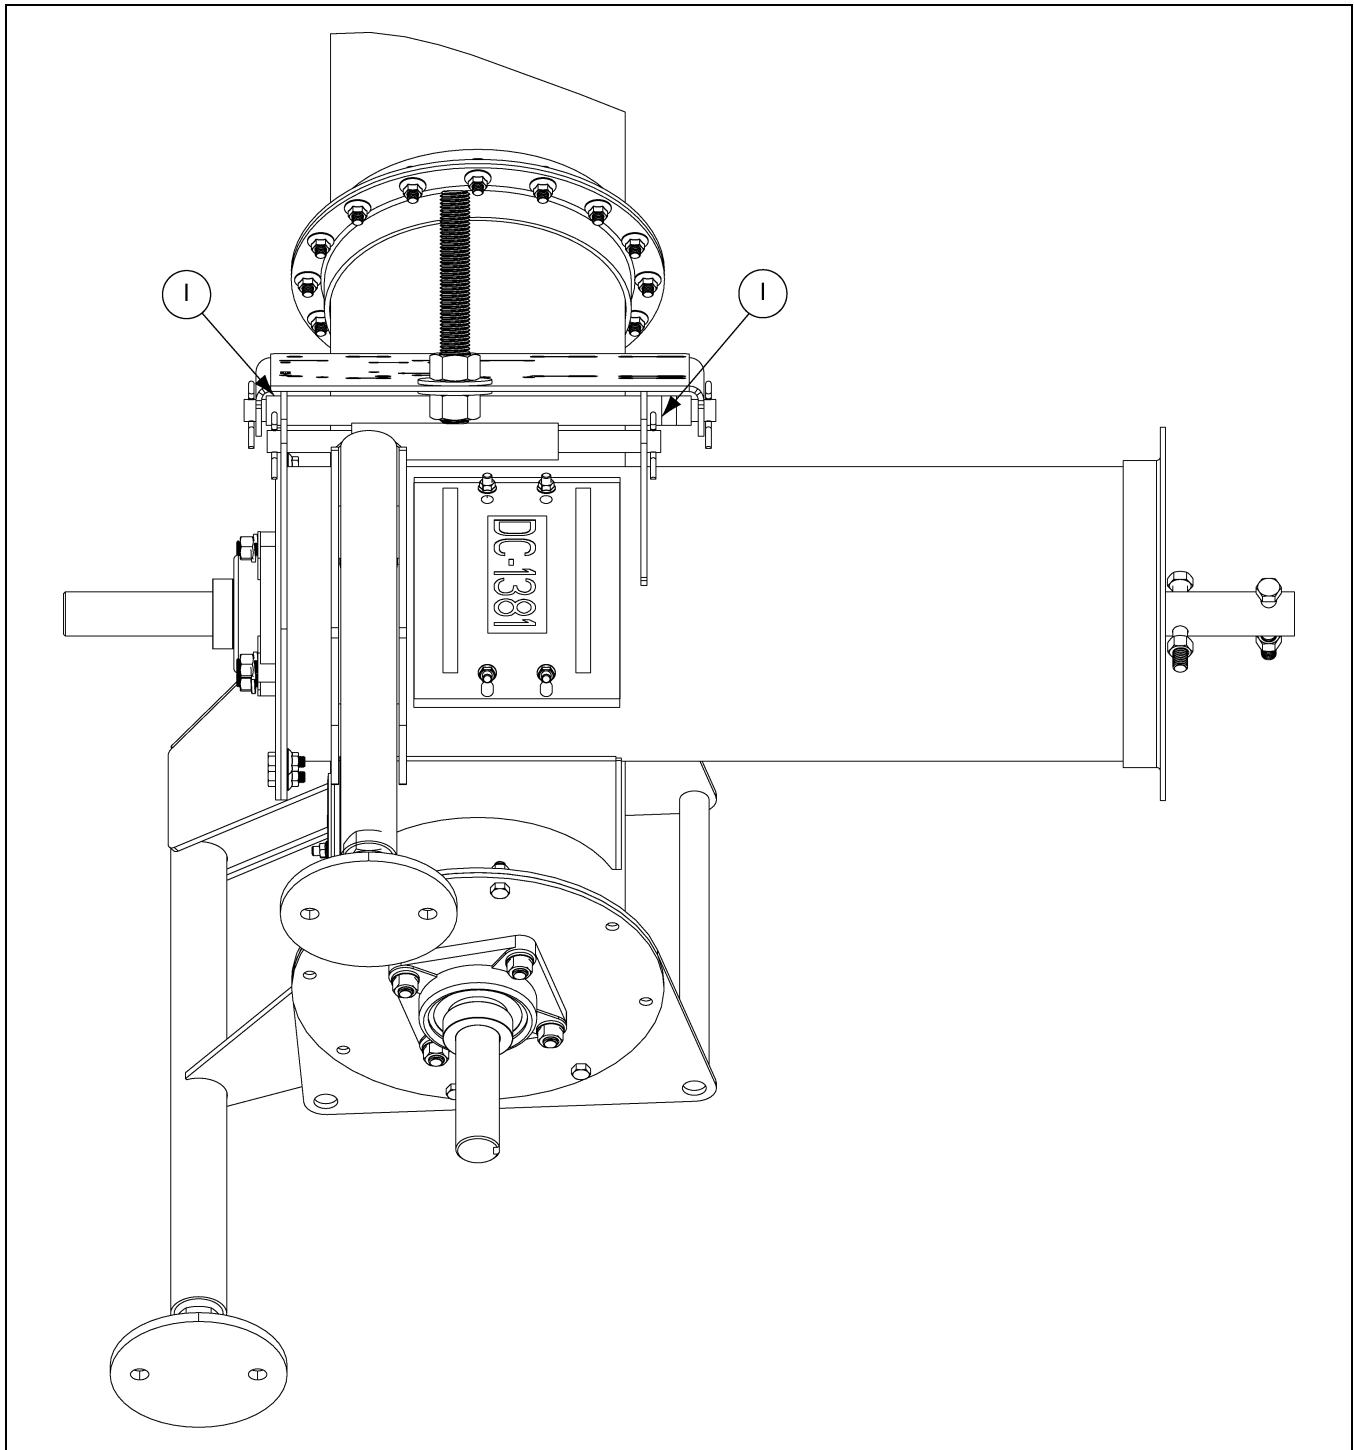
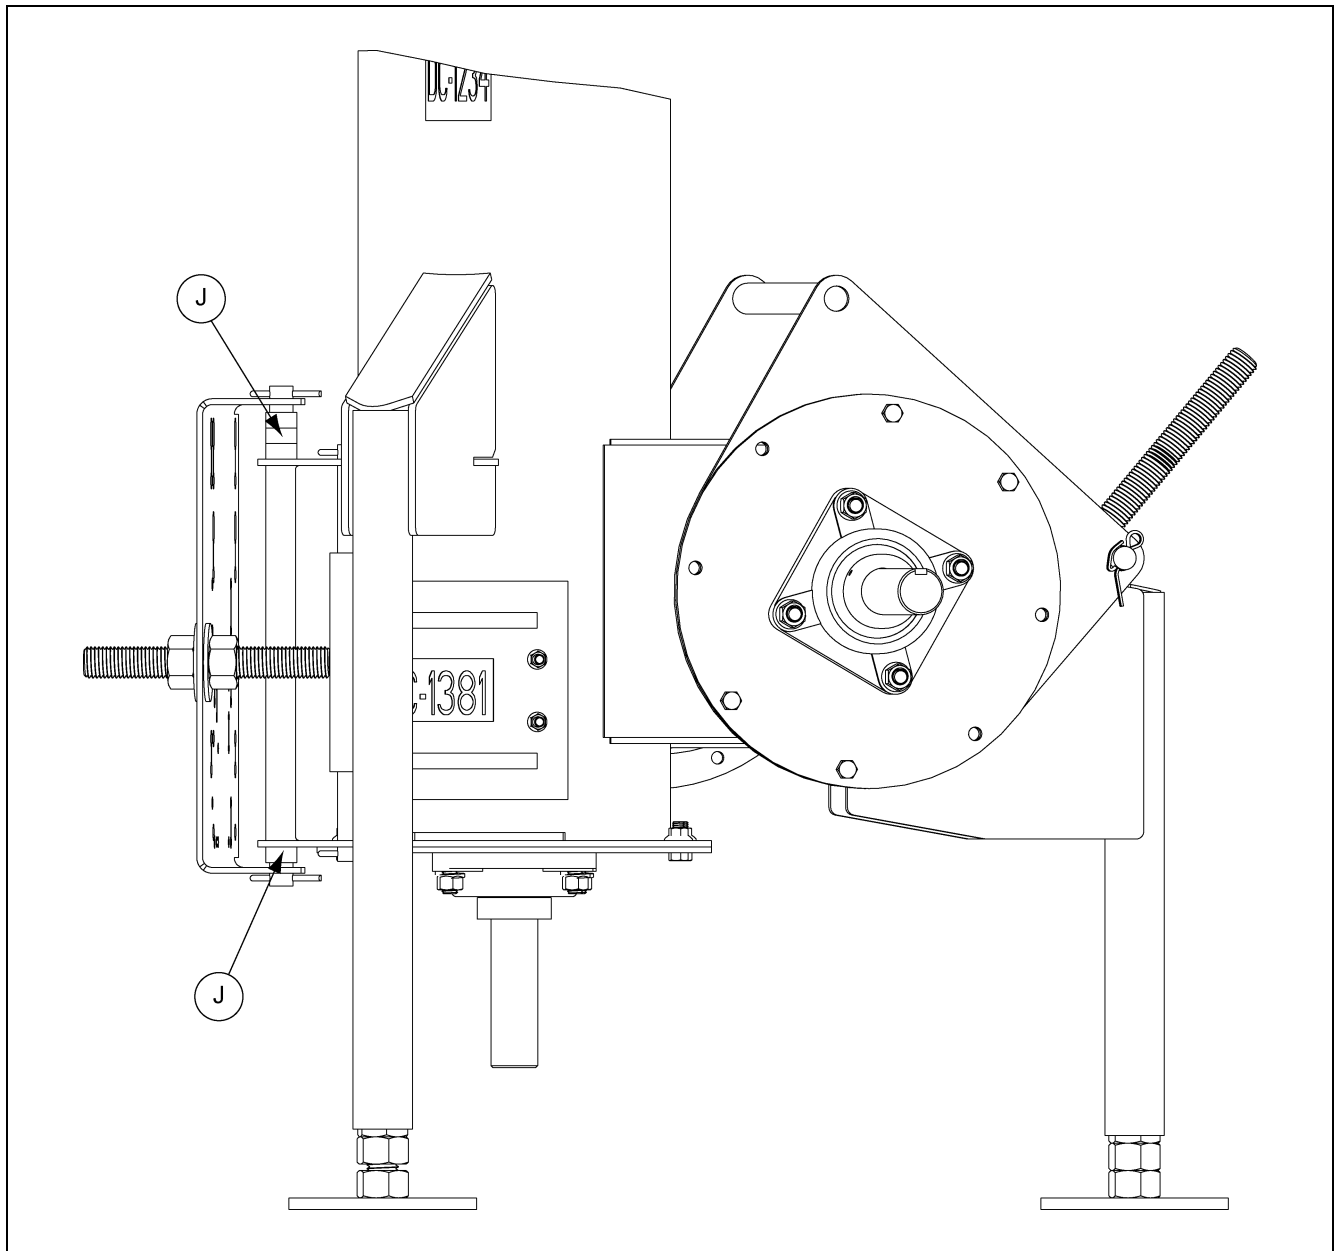

Figure 3J
Figure 3K
D. When the *pivot rod* begins to extend through the pivot tube, install the *spacers* BETWEEN the back plate and the inner face of the *motor mount plate*. (See Figure 3J below and Figure 3K on Page 20.)